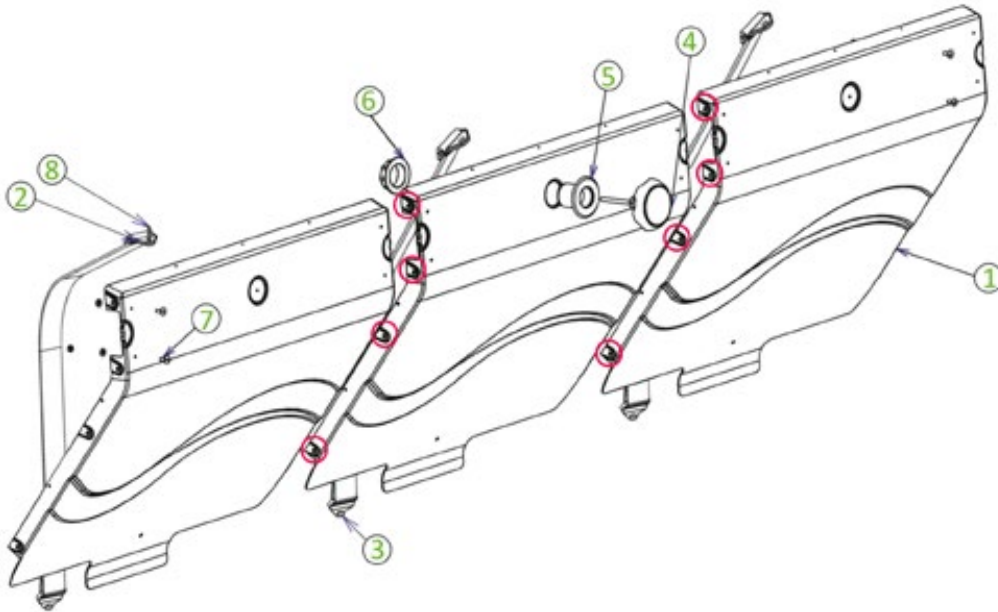

Figure 42 – Installing the pit wall and underwater light
The pit wall and underwater light assembly steps are illustrated in Figure 42. The screws required for assembly are enclosed in bag Y.
Assemble the three pit wall modules (1) using eight hex head 8×20 A4 SS screws, and eight 8 mm diameter nuts, place a 8 mm diameter washer on either side of the wall. The positions of these screws are circled in red in Figure 42.